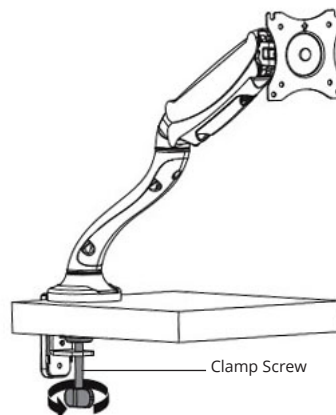

Figure 3
4. Position the Arm Assembly to the desktop. Loosen the clamp screw according to the thickness of the desktop. Tighten the C-Clamp to the desktop by turning the clamp screw clockwise, see Figure 3.